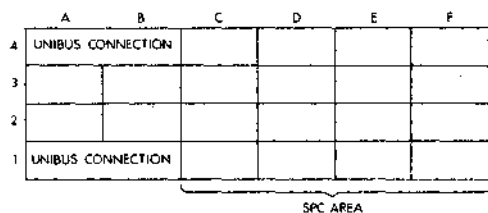

Figure 9-1 System Unit (SU) & DD11
The basic mounting assembly for PDP-11 logic is the System Unit (SU), see Figure 9-1. Logic modules and cable connectors plug into the System Unit, and backplane wiring on the other side connects pins together. There are a total of 24 single module slots, but several of them are committed to UNIBUS connections. Logic modules are 8.5" long and the height can be single, double, quad, or hex (taking up 1, 2, 4, or 6 modules slots), see Figure 9-2. A System Unit is connected to other System Units only via the UNIBUS.